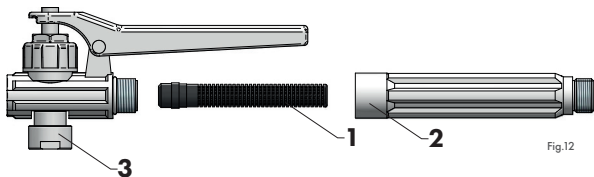

Fig.12
Move the foamer to the place of work. Pump the foamer up by moving the piston rod (approx. 20 full movements) (Fig. 7c) or by connecting the compressor to the compressor connection (Fig. 7d) until the safety valve is activated (Fig. 7a/pos. 1). Opening of the safety valve (Fig. 7a/pos. 1) means that the maximum vessel pressure has been reached. Monitor the tank pressure on the pressure gauge (fig. 12/pos. 3).
During operation, the pressure in the tank will decrease. Monitor the pressure on the pressure gauge (fig. 12/pos.3). Restore the tank pressure by pumping.
The filter (fig. 12/pos. 1) located on the lance handle (fig. 12/pos. 2) and the foamer insert and nozzle (fig. 10/pos. 1 and 2) located at the lance tip (fig. 1/pos. 1) must be cleaned periodically and before any prolonged downtime.